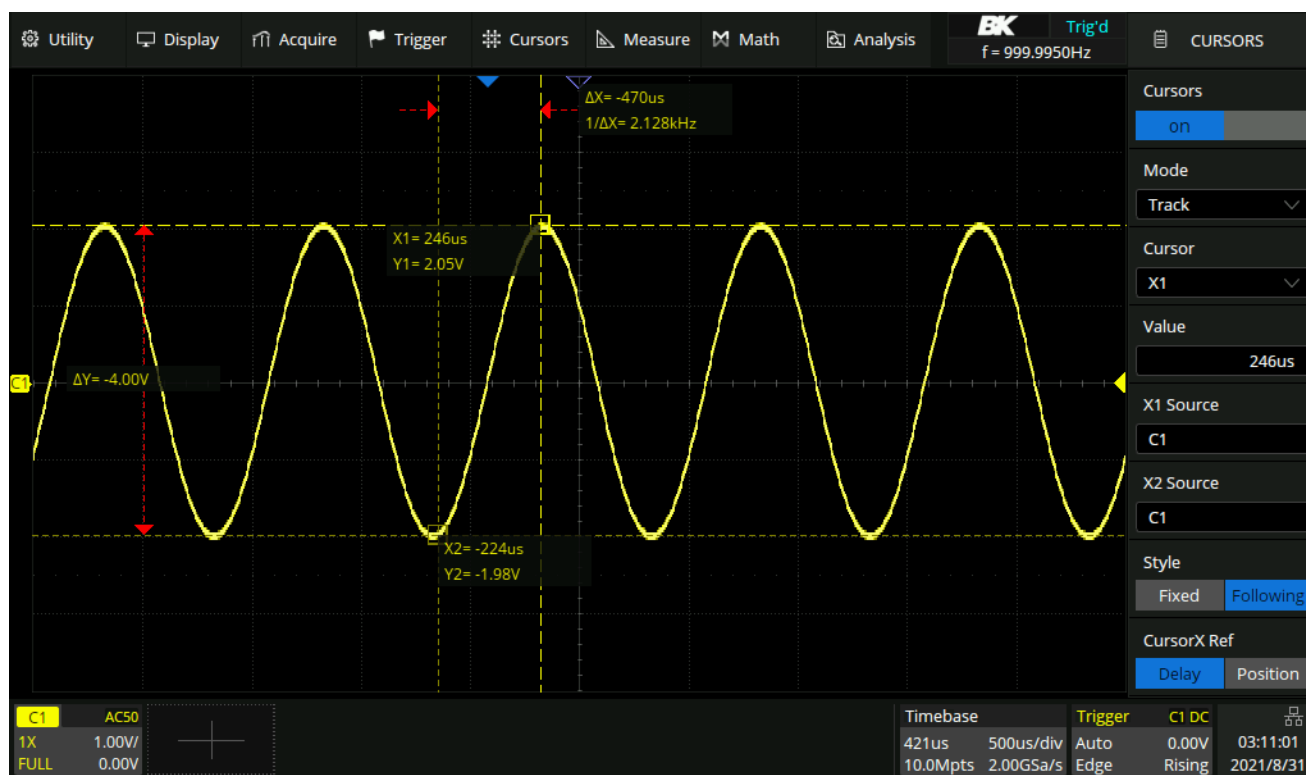

Figure 11.2 Track Cursor Mode
- Track: The cursor type is automatically set to **horizontal + vertical**. In this mode, only horizontal cursors are adjustable, while the vertical cursors automatically attach to the cross-point of the cursor and the source waveform. Figure 11.2 demonstrates track mode cursors.